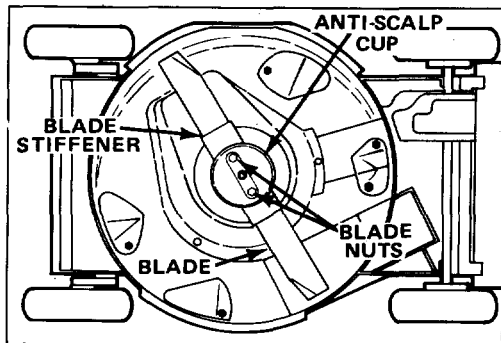

Figure 24
3. Tip mower on its right side (Fig. 24). Avoid rotating the blade because starting problems may result.
5. REMOVING BLADE—Grasp end of blade using a rag or thickly padded glove. Remove (2) blade nuts, anti-scalp cup, blade stiffener, and blade (Fig. 24).